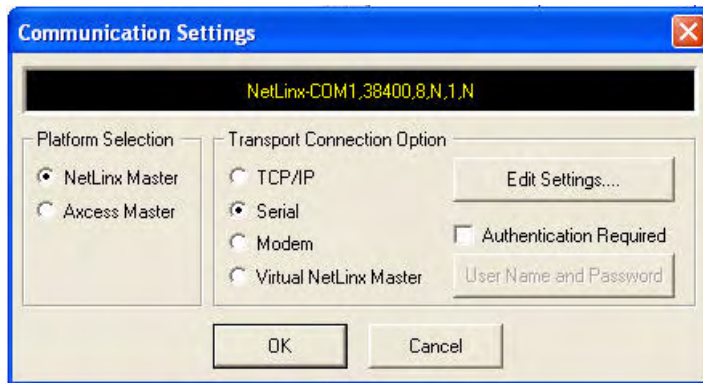

FIG. 38 Communications Settings dialog box
- Click the **Communications Settings** button to open the *Communications Settings* dialog (FIG. 38).